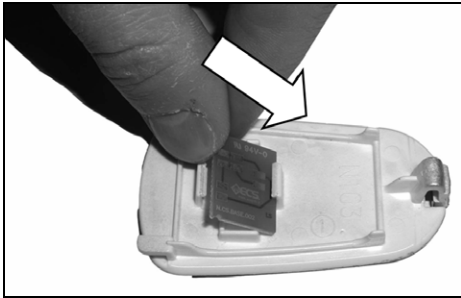
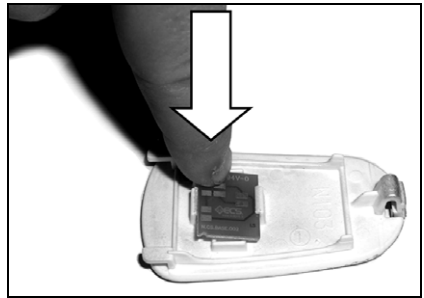

Fig. 35
Fig. 36
- Position the back of the Basic Card (Fig. 35) in the rear of the “N-Com” protection plate and then push the basic card in its housing until the fastening clasps click (Fig 36);